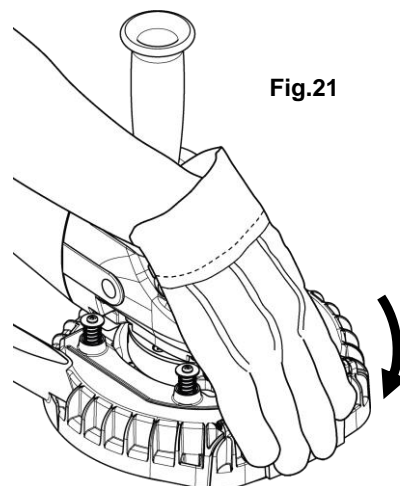

Fig.21
7. Turn off the angle grinder and vacuum, then close the Front Lid. (Fig.21)